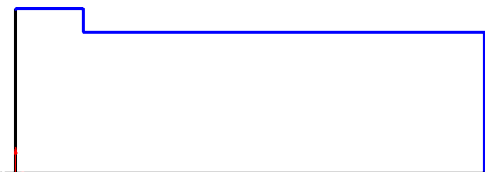

Fig. 3
Step 6. Sketch a **short horizontal centerline out from left endpoint of horizontal line**, **Fig. 3**.